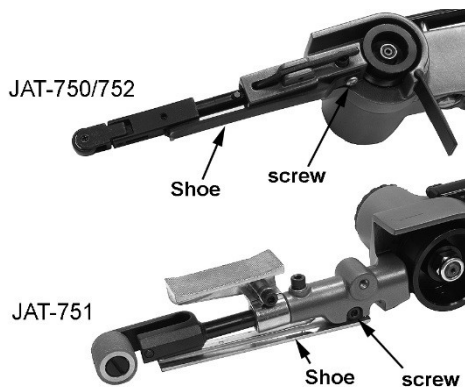

Figure 7
- Remove screw(s) and remove old shoe (Figure 7).
- Loosen hex socket cap screw (Figure 7).